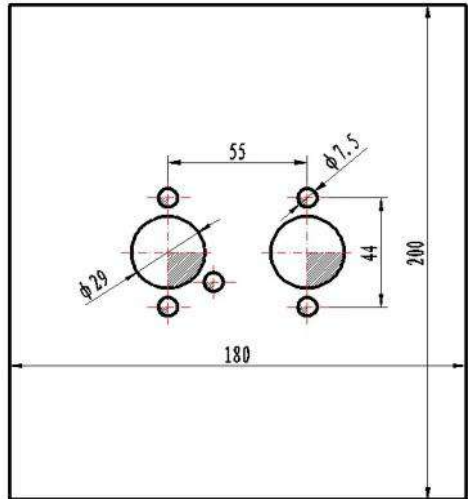

Fig 12
4.2.4 If the thickness of the installation panel < 1.5mm a mounting plate may need. Between mounting plate and the car body must also be sealed (use glass glue(Fig.12).